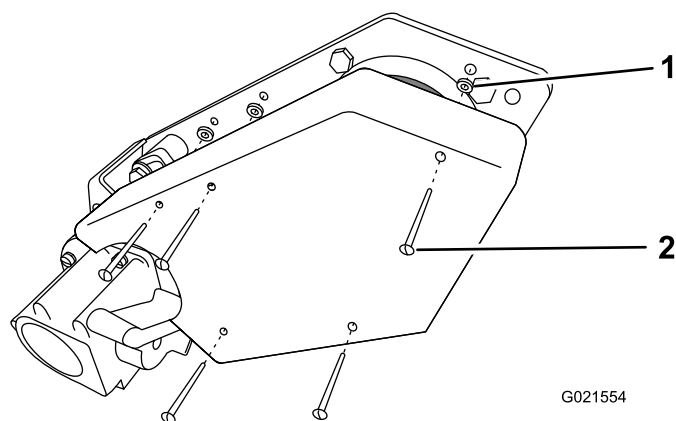

Figure 31
2. Remove the 5 screws that secure the belt guard to the belt mounting plate (Figure 31).
8. Install the belt guard with the 5 screws and plastic washers (Figure 31).
7. Install the belt guard with the 5 screws and plastic washers Figure 31.